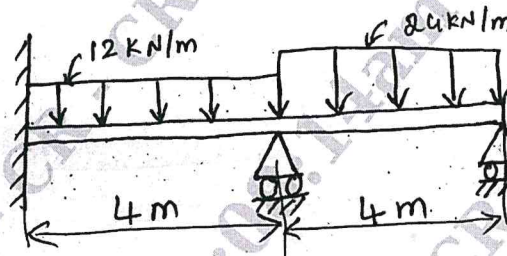

Fig Q7(b)
b. For the beam shown in Fig Q7(b), determine the deflection at mid span and determine the end reaction. Take  $E = 200 \text{ GPa}$  and  $I = 4 \times 10^6 \text{ mm}^4$